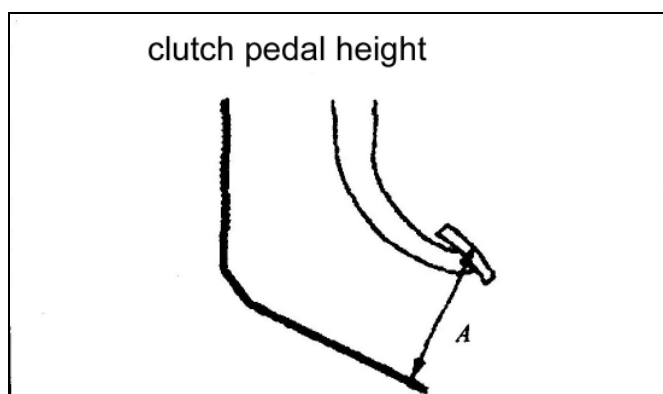

Fig.11-127
- (1)Turn up the carpet,etc.under the clutch pedal .
- (2)Measure the clutch pedal height as shown Fig.11-127.